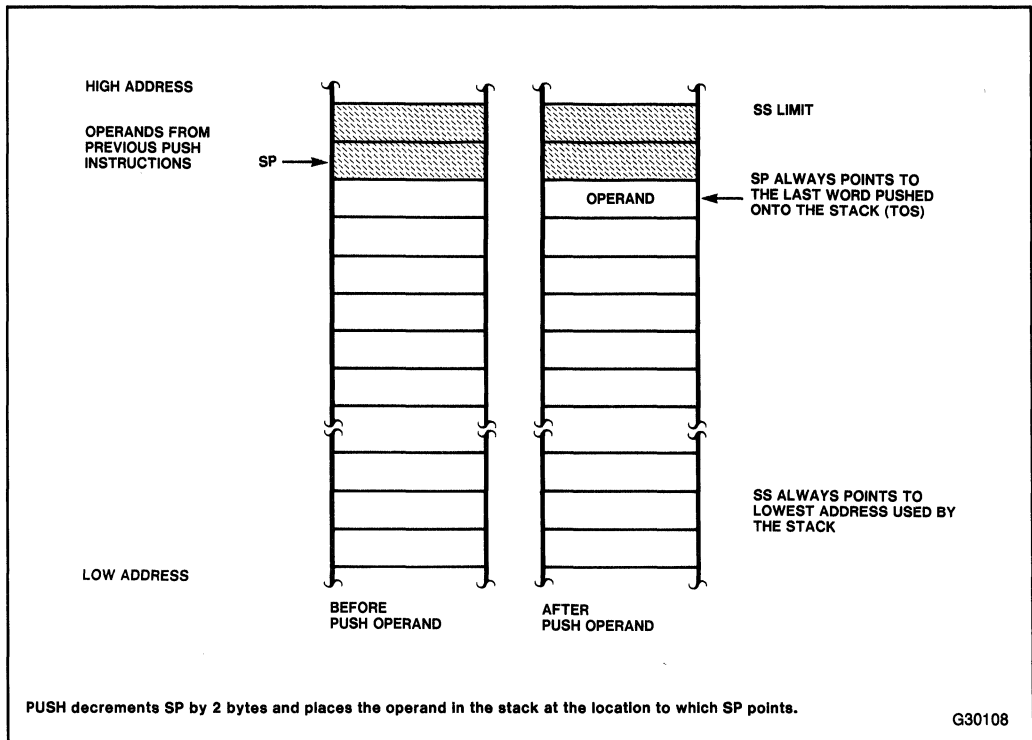

Figure 3-1. PUSH
PUSH (Push) decrements the stack pointer (SP) by two and then transfers a word from the source operand to the top of stack indicated by SP. See figure 3-1. PUSH is often used to place parameters on the stack before calling a procedure; it is also the basic means of storing temporary variables on the stack. The PUSH instruction operates on memory operands, immediate operands (new with the 80286), and register operands (including segment registers).